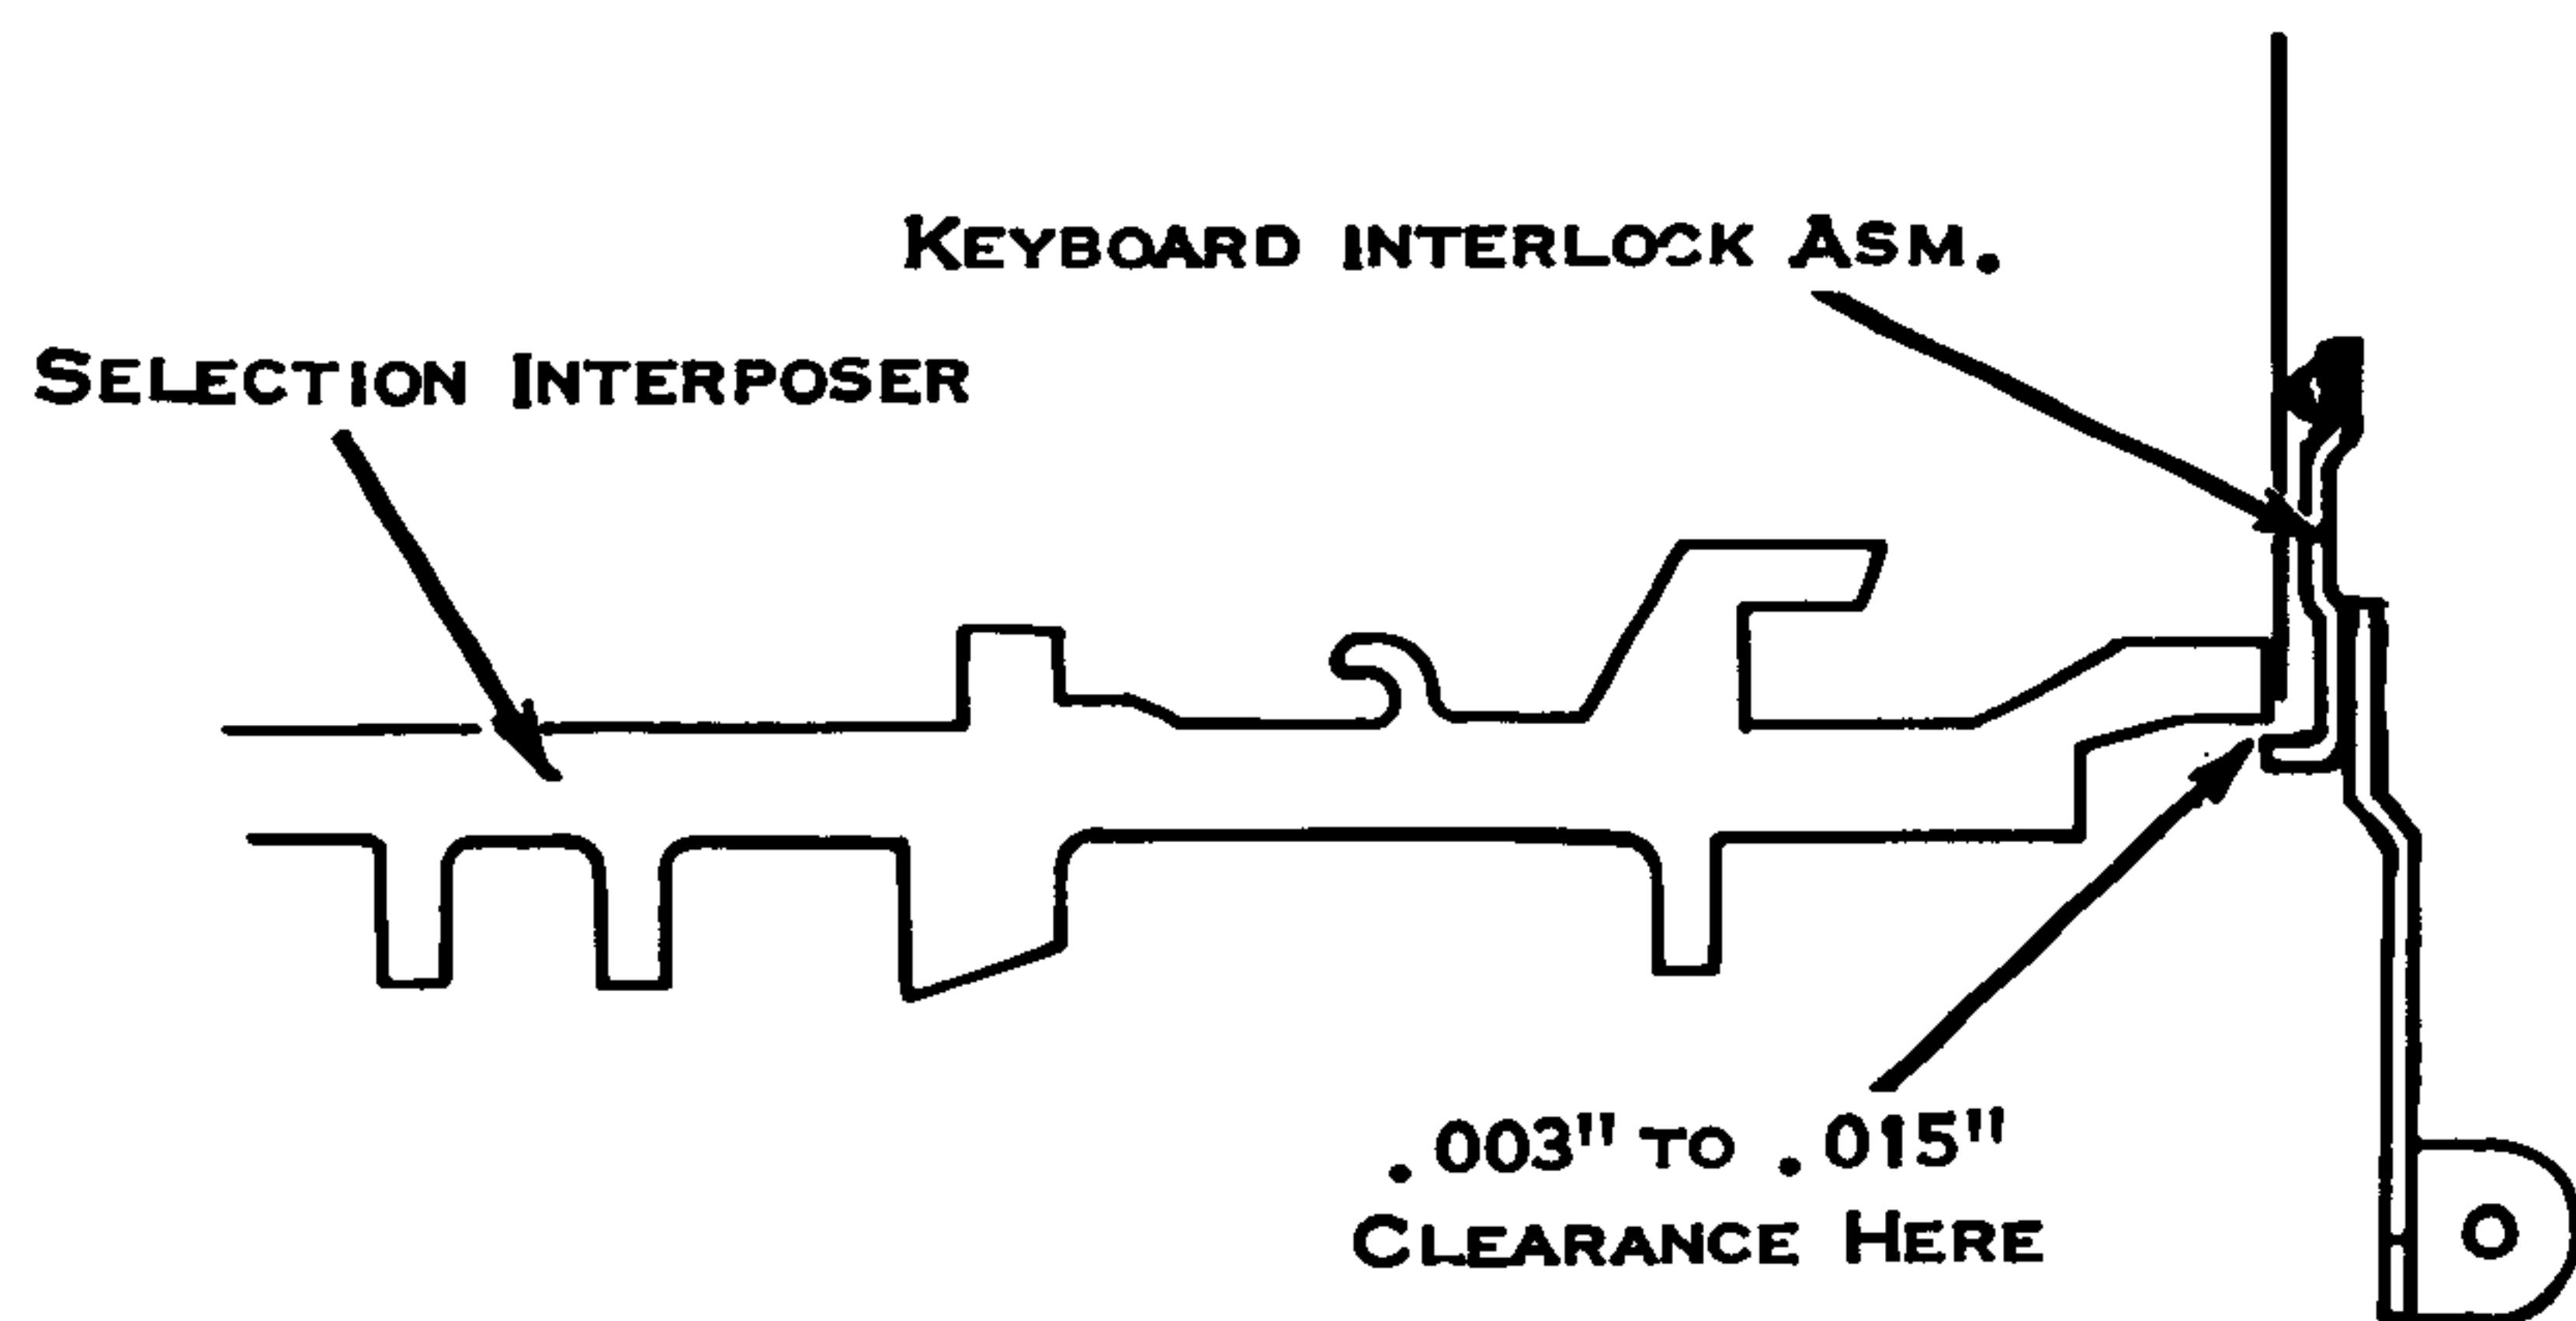

Figure 44. Keyboard Interposer Lock Assembly
- a. Adjust the keyboard interposer lock assembly by loosening the four mounting screws and moving the assembly up or down for .003" to .015" clearance between the bottom of the interposer and the keyboard interposer lock assembly when the keyboard interlock assembly is activated (Fig. 44).